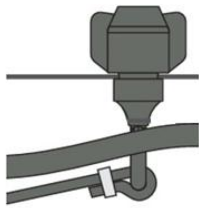

Fig. 10-1: Fixed nylon rope at “Flexi” lifting ring
- Fix one end of the nylon rope to the “Flexi” lifting ring with a cable tie (as Fig. 10-1).